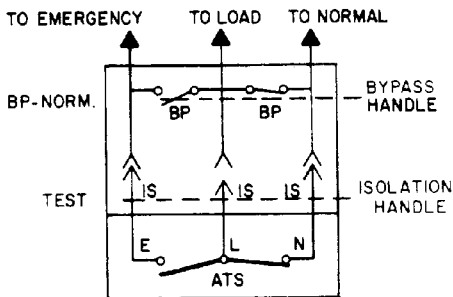

Figure 3-9. Test position.
2. Turn **Isolation Handle** clockwise to the *TEST* position. (see Figure 3-9):